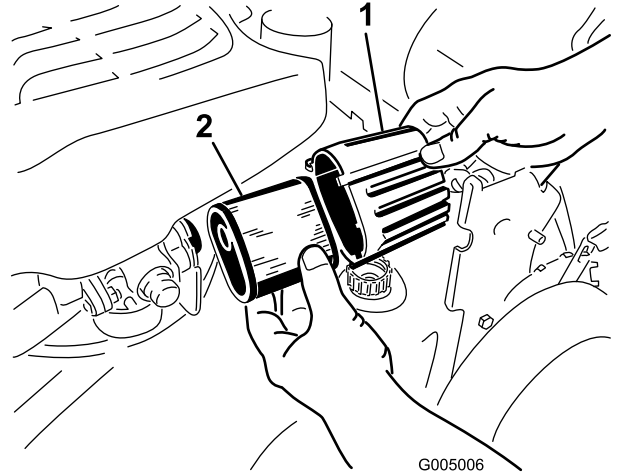

Figure 20
2. Rotate the air filter cover to remove it (Figure 20).